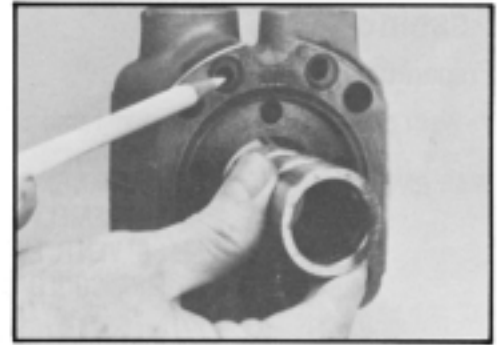

Figure 103
4. If valve assembly (15) is disassembled, refer to the enlarged exploded view, on pages 21A & 21B. Assemble valve spool (15B) into valve body (15A). The end of the valve spool with identification grooves in the bore or in the undercut or relief on the outside diameter must be toward the adaptor side or face of valve body after assembly. The adaptor side or face of the valve body has two (blind) cylinder feed holes that do not extend through to the opposite side or face. On some valve bodies the cast identification # boss is pointed on the end toward the adaptor side or face. SEE FIGURE 103.